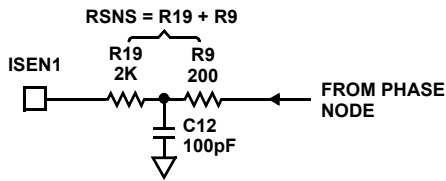

FIGURE 10. NOISE FILTER FOR ISEN1 INPUT
- A 'T' filter consisting of a 'split' RSNS and a small, 100pF, capacitor as shown in Figure 10, may be helpful in reducing noise coupling into the ISEN input. For example, if the calculated value of RSNS1 is 2.2kΩ, dividing it as shown with a 100pF capacitor provides filtering without changing the current limit set point. For any calculated value of RSNS, keep the value of the R9 portion to approximately 200Ω, and the remainder of the resistance in the R19 position. The 200Ω resistor and 100pF capacitor provide effective filtering for noise above 8MHz.